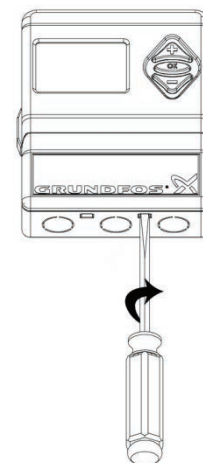

Figure 1: Mounting Controller
2. Remove the controller's wiring cover by releasing its tabs with a 3/16" flathead screwdriver as shown in Figure 1.